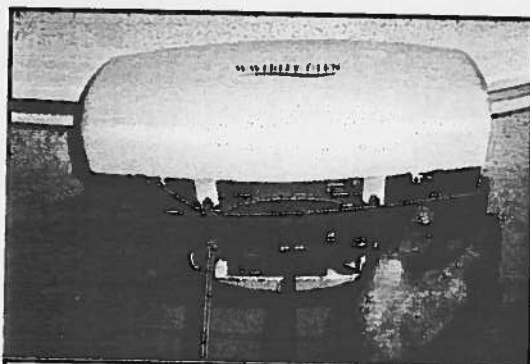

Figure 14A- Remove lift cover.
Step 1) Carefully remove the cover of the lift by pulling down on both sides of the lift cover. Refer to figure 14A.